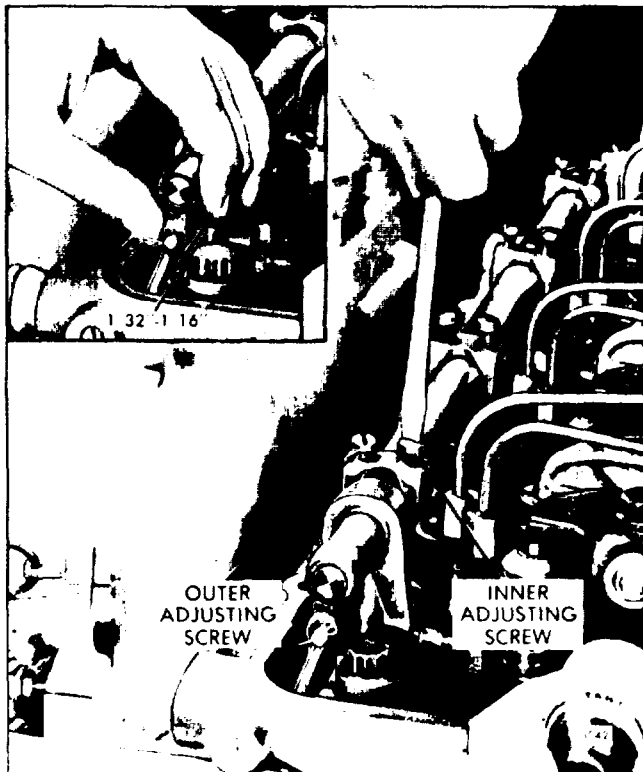

Fig. 3 Adjusting Injector Rack Control Lever Adjusting Screws
5. Adjust the rear cylinder injector rack control lever adjusting screws (Fig. 3) until both screws are equal in height and tight on the injector control tube.